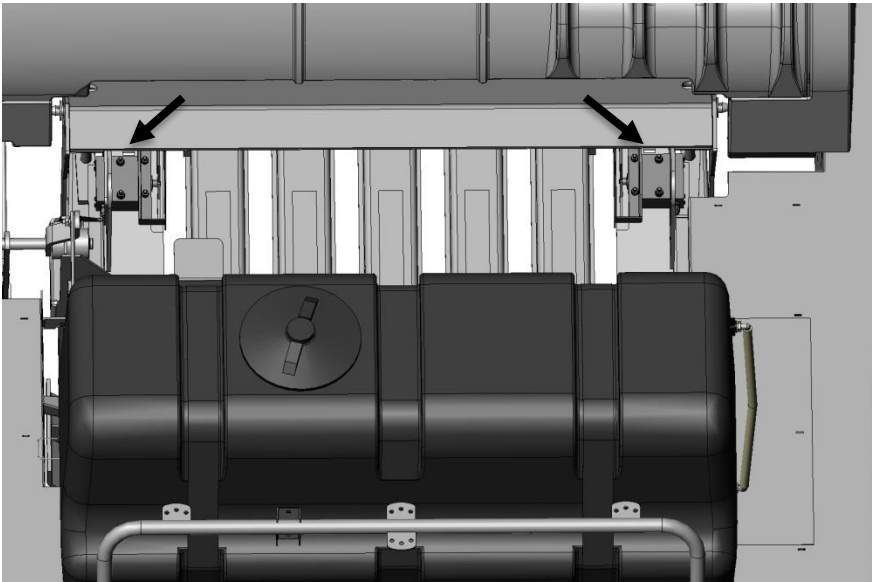

Figure 5
2. Directly behind the knotters, locate the four predrilled holes per side shown at the arrows. This location is also beneath the lift points on top of the baler (Figure 5).
Attach the microwave moisture sensors to each mounting bracket. Sensor 006-4641MRX will be mounted on the left side of the bale chute (figure 4). Sensor 006-4641MTX will be mounted on the right side (figure 5). Mount the sensors with the wire connection port toward the baler.